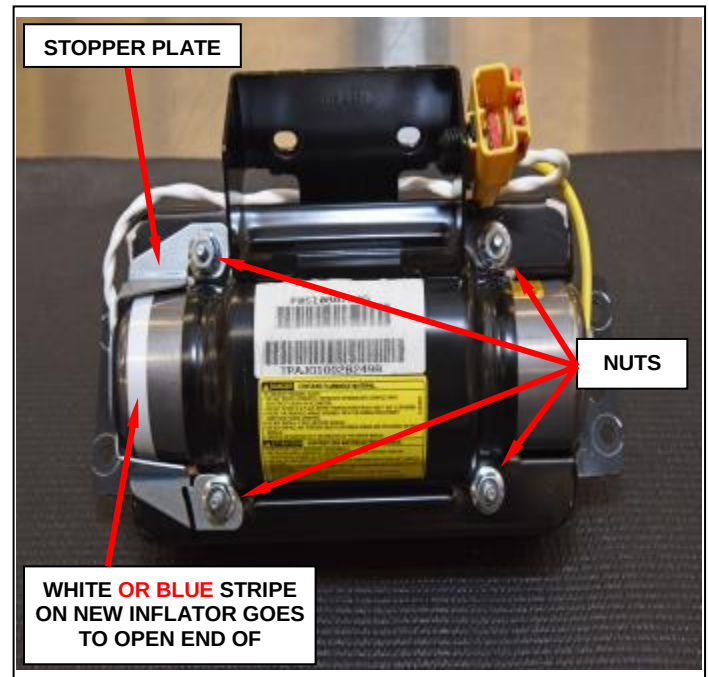

Figure 105 – Stopper Plate and Nuts
- j. With the help of a trim tool insert the holes of fabric gasket, four places (Figure 105).